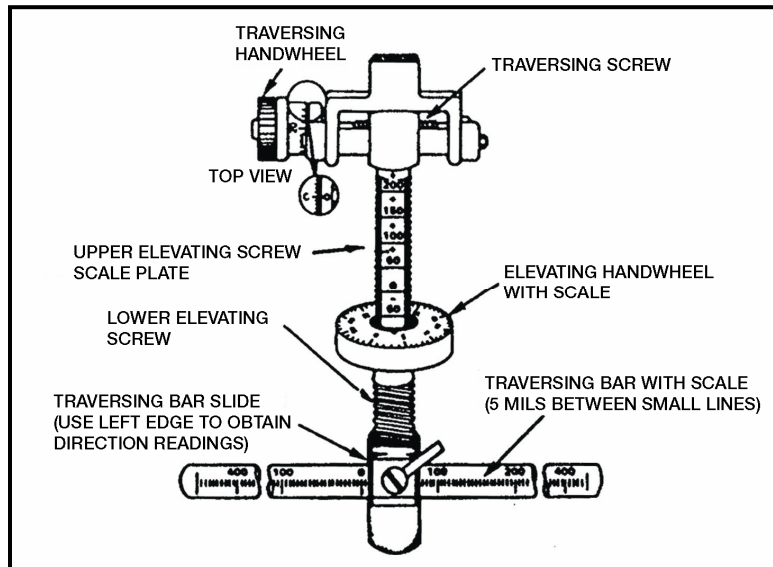

Figure 071-000-0005-4. Traversing and elevating mechanism
(1) Label the range (in meters) from the gun to each target in the secondary sector.
(2) Sketch aiming and elevation stakes between the gun position and the target as shown in figures 071-000-0005-2 and -3.
5. Using the T&E mechanism, determine the direction, elevation, and range to each target. Write this information in the DATA SECTION of the range card as follows (figures 071-000-0005-2 and -3):
- (1) Lay the gun on the base of the target.
- (2) Read the direction on the traversing bar at the left edge of the traversing bar slide (figure 071-000-0005-4).
- (3) Determine by the direction of the barrel whether the reading is right or left.
- (1) Lay the gun on the base of the target by rotating the elevating handwheel (figure 071-000-0005-4).
- (2) Read the number (including a "+" or "-" sign, unless the number is "0") above the first visible line on the elevating scale. (In figure 071-000-0005-4, this reading is "-50.")
- (3) Read, from the elevating handwheel, the number in line with the indicator. (In figure 071-000-0005-4, this reading is "3.")
6. Record the data you found using the T&E mechanism (figure 071-000-0005-4).